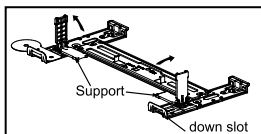
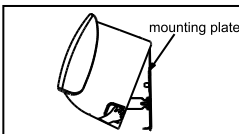

Fig. 3
Fig. 4
- 3) Open the two supports on the wall mounting plate to 90 degrees as shown in Fig. 3 and move the plate step by step to reach the best location(Fig. 4).
- 4) After connect pipe and wire,close the two supports on the wall mounting plate as shown in Fig. 3.Then move the unit step by step to reach the best installation, then press the unit into 2 down slots (Fig.4).